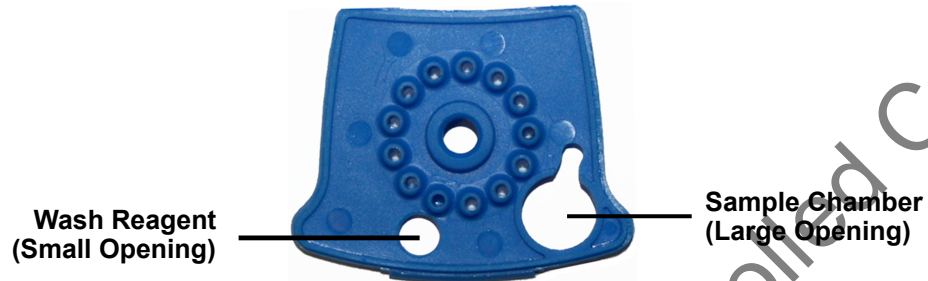

Figure 1. Xpert BCR-ABL Ultra p190 Cartridge (Top View)
3. Open the cartridge by lifting the cartridge lid and transfer the entire contents of the Wash Reagent (1) ampoule to the Wash Reagent Chamber (with small opening). See Figure 1.
4. Pipette the entire contents of the prepared sample into the Sample Chamber (large opening). See Figure 1.